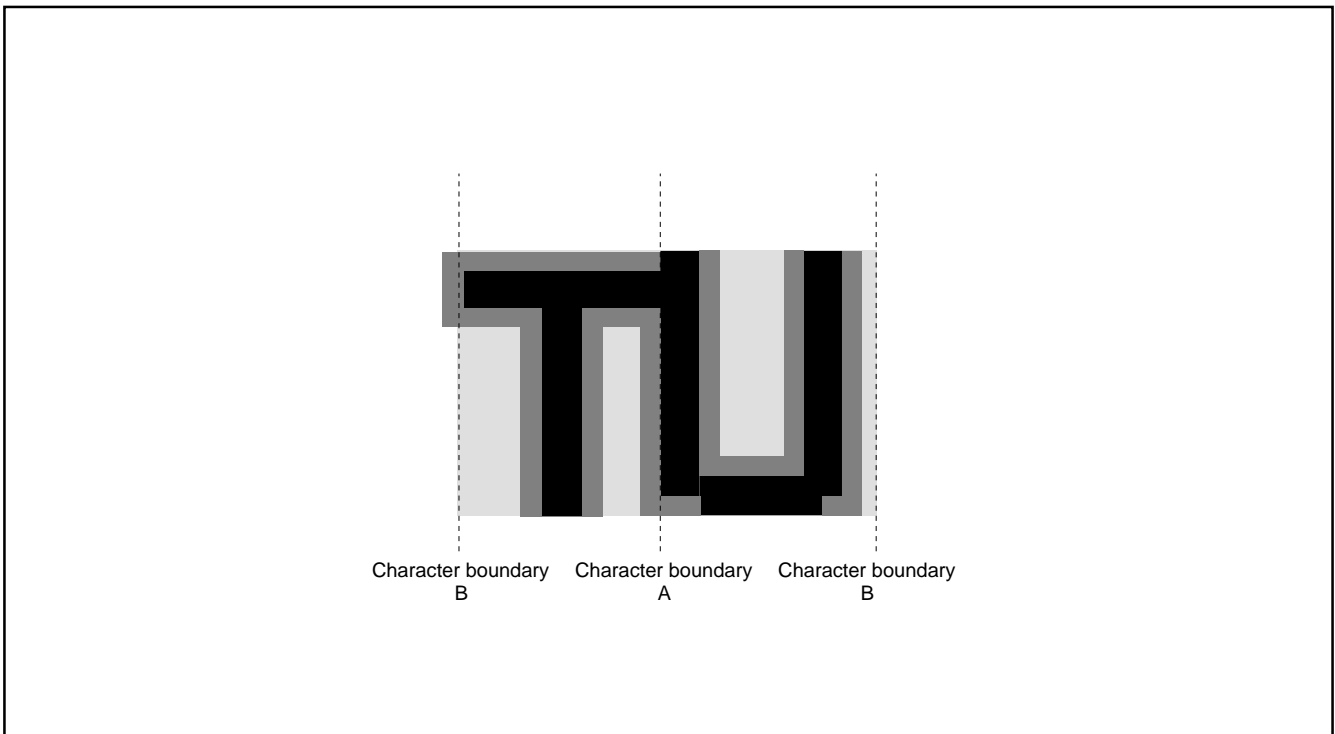

Fig. 91. Border Priority
**3 :** When the border dot overlaps on the next character font, the character font has priority (refer to Figure 91 A). When the border dot overlaps on the next character background, the border has priority (refer to Figure 91 B).